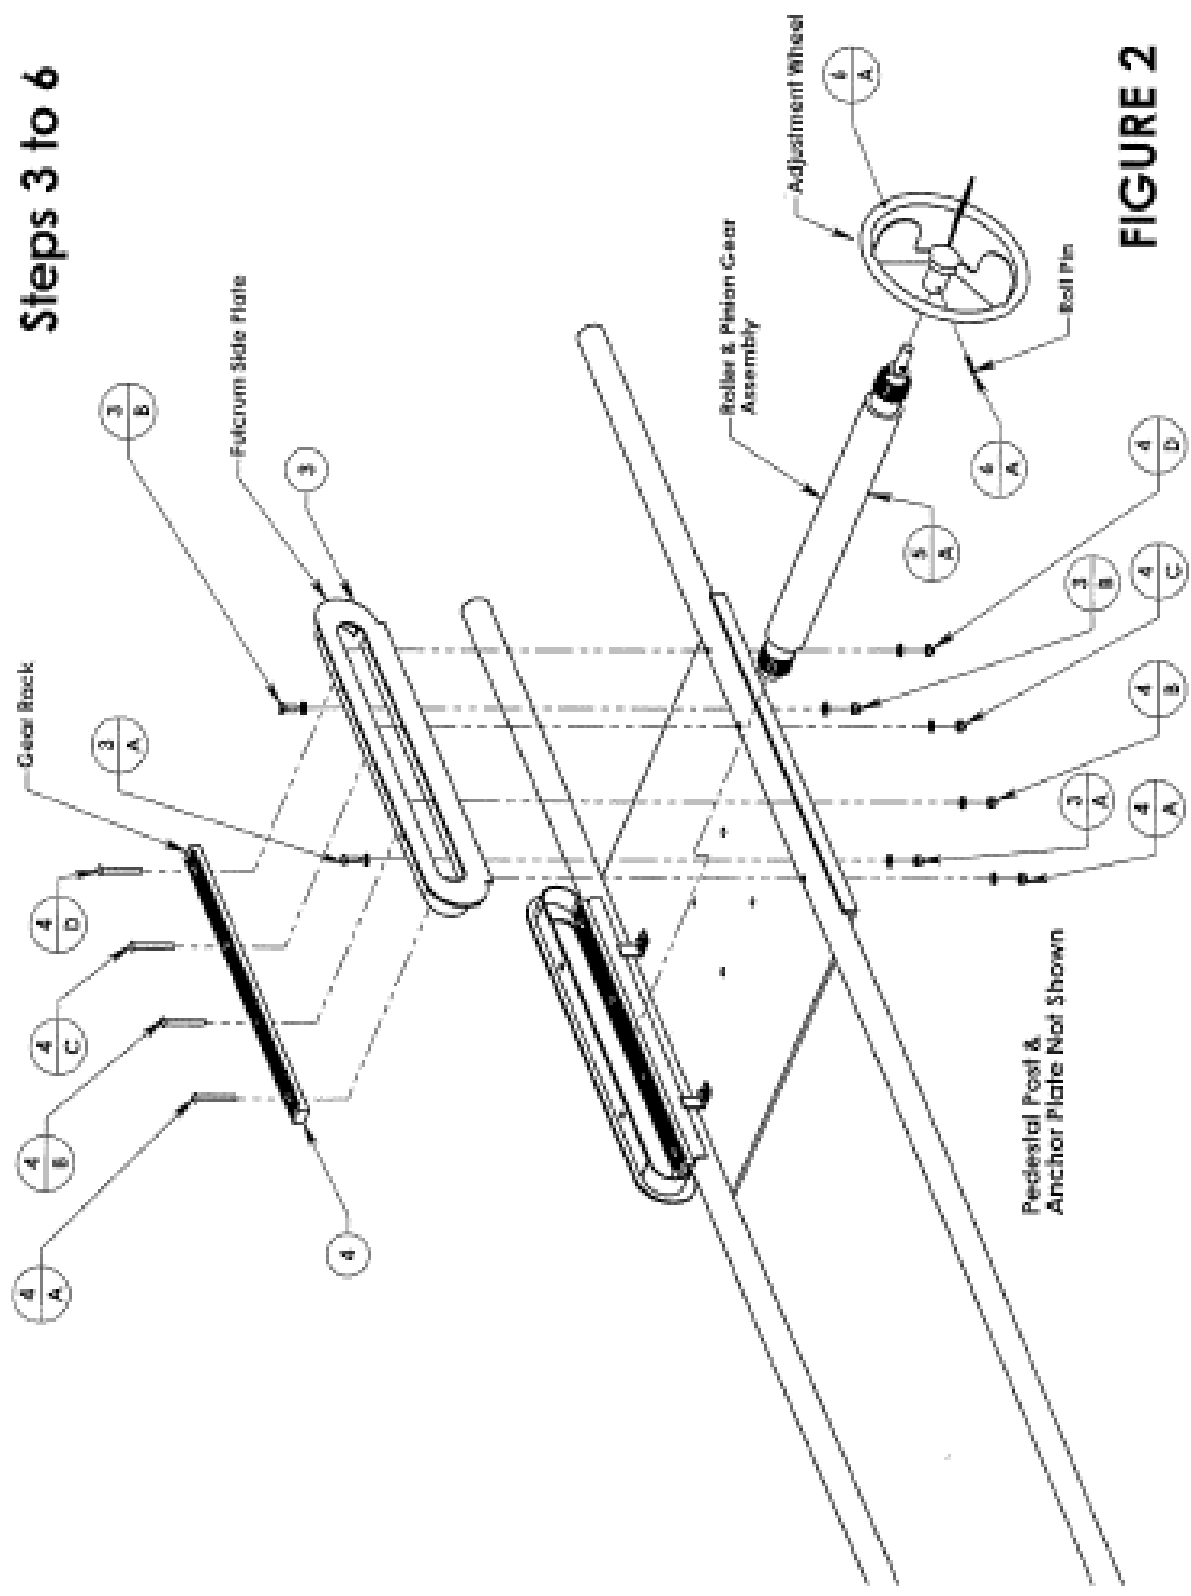

FIGURE 2
- 3) **INSTALL SIDE PLATE * (OPPOSITE) [Figure 2, 3A & 3B]**
- 4) **INSTALL GEAR RACK * (OPPOSITE) [Figure 2, 4A to 4D]**
- 5) **INSTALL ROLLER ASSEMBLY * [Figure 2, 5A]**
- 6) **INSTALL ADJUSTMENT WHEEL * [Figure 2, 6A]**